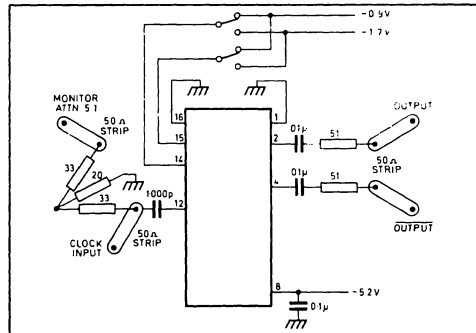

Fig. 4 Dynamic test circuit (all capacitors 1000pF unless stated)
3. The devices are dynamically tested using the circuit shown in Fig. 4 with input amplitudes of 400 and 1000 mVpp over the full temperature range.